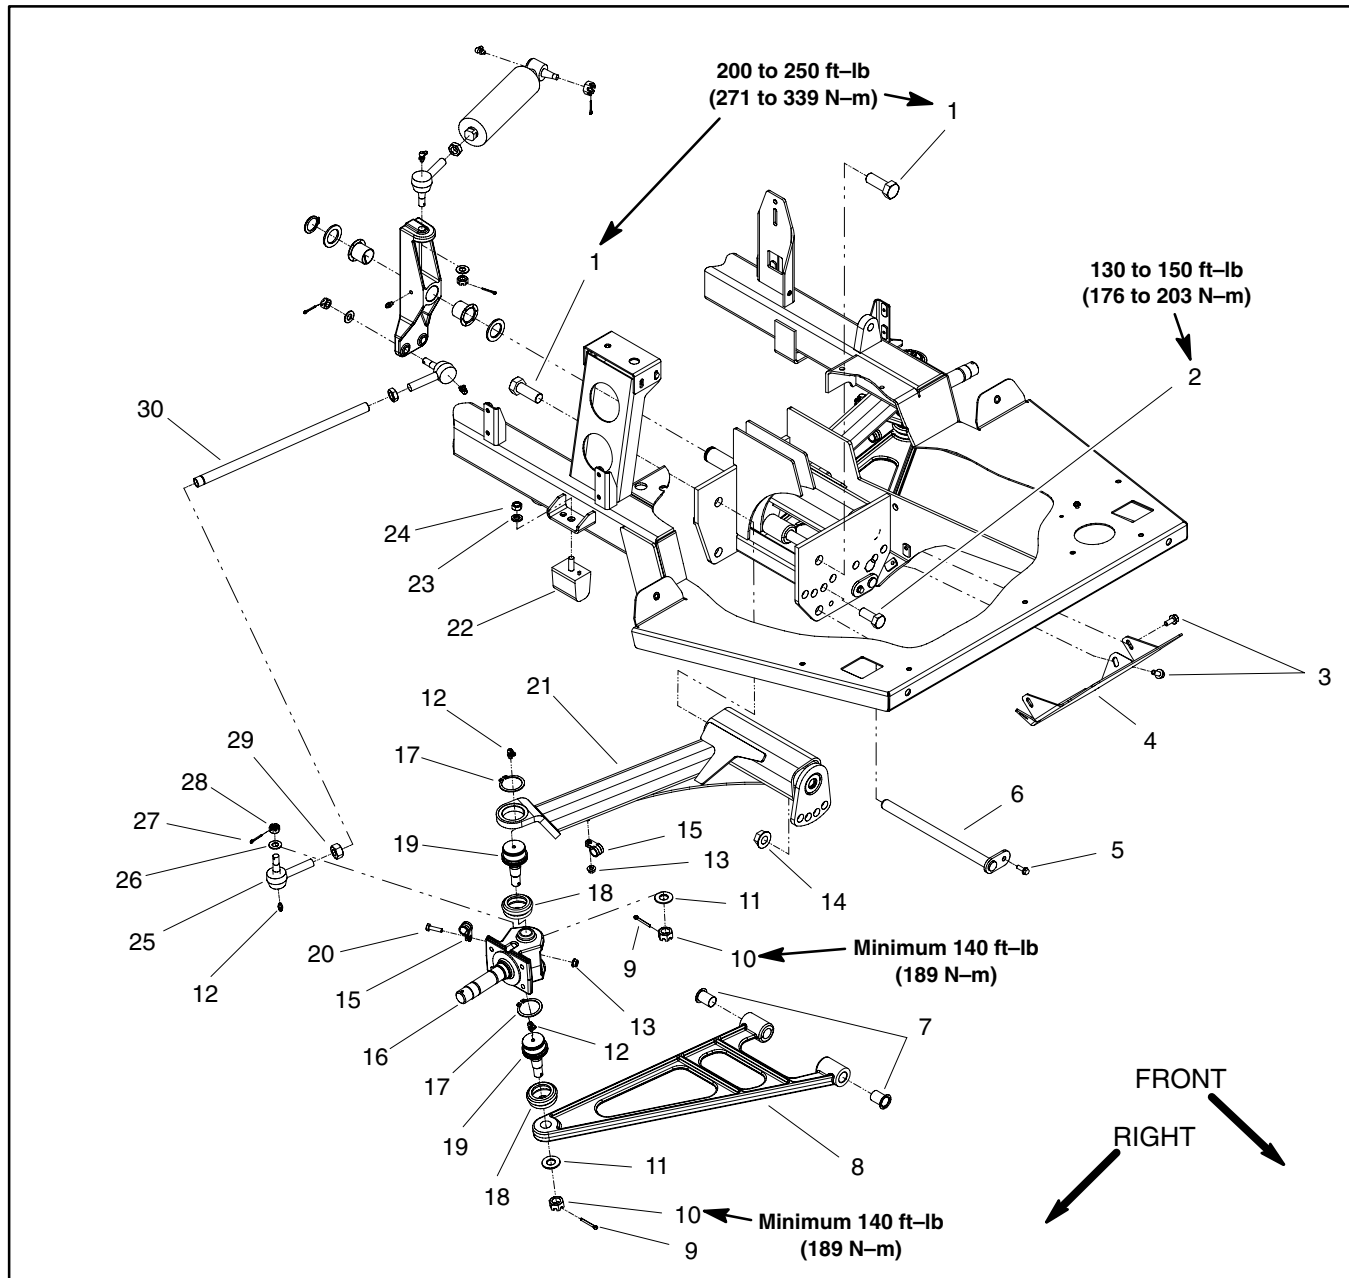

Figure 13
Disassembly (Fig. 13)
5. Disassemble suspension as needed using Figure 13 as a guide.
Assembly (Fig. 13)
1. Assemble suspension using Figure 13 as a guide.